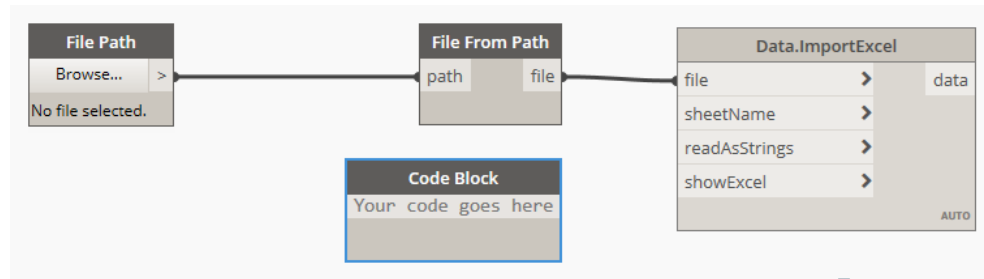

FIGURE 59
5. Wire the nodes as indicated in Figure 59.